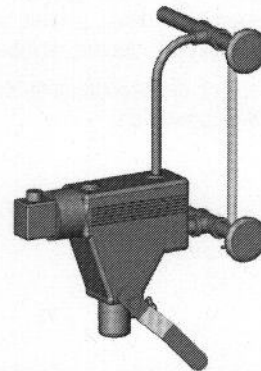

Figure 6.3: Gauge Glass & Low Water Cut-Off Installation
- a. **Float Type:** Install the float type low water cut-off (if provided) in conjunction with the gauge glass as shown in Figure 6.3.
Install the gauge glass provided into two 1/2" tappings on the right side of the boiler. If a float type low water cut-off is used, it will be piped into these same fittings. See Figure 6.3 and 6.4 for examples of this installation.